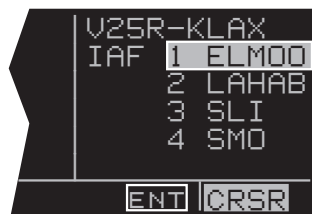

Figure 6-4
5. The KLN 900 will present a list of Initial Approach Fixes (IAFs) corresponding to this approach. In this example we want the ELMOO IAF. Select this by pressing **ENT** when the cursor is over **ELMOO** (figure 6-4). Note: If there is only one IAF for a procedure, then the KLN 900 will skip this step and go on to the next step.